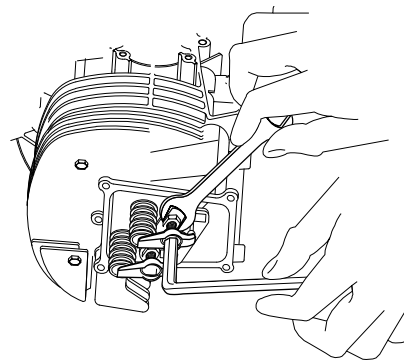

Figure 5-14. Tightening Jam Nut
2. See Figure 5-14. When clearance is correct, hold pivot ball stud with Allen wrench and tighten rocker arm jam nut to specified torque with a crow foot wrench. After tightening jam nut, recheck valve clearance to make sure it did not change.